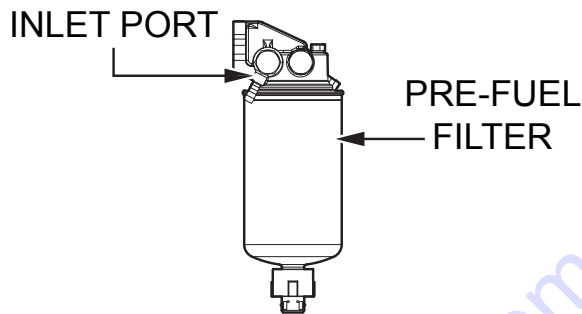

Figure 9. Pre-Fuel Filter Inlet Port
3. Inspect the inlet port on the pre-fuel filter (Figure 9) for debris, and clean if necessary.